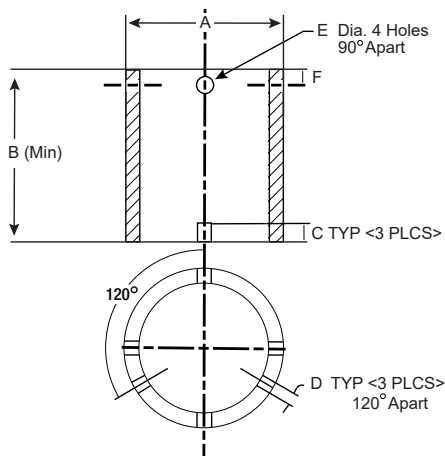
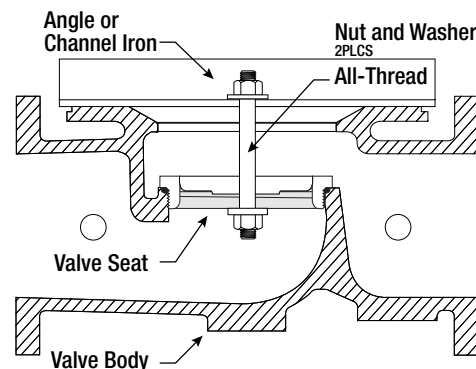

Figure 3
Figure 4
7. Inspect valve seat. If seat is not damaged, removal is not necessary. Valve seats 6" and smaller are threaded into the body of the valve and require a seat removal tool (Figure 3) (Table 1 details the tool dimensions for seat removal). Valve seats 8" and larger are held in the valve body with stainless steel cap screws. Remove seat retaining screws and lift seat straight up (Figure 4).